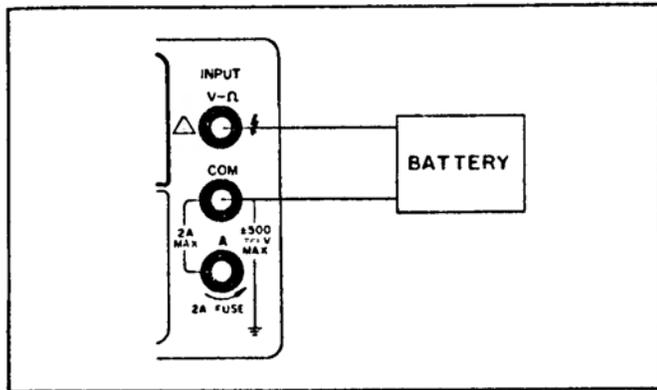

Figure 3-5. DC Voltage Measurements
- c. Connect test leads from the Multimeter V Ω (high) and COM (low) terminals to the voltage under test as shown in Figure 3-5.